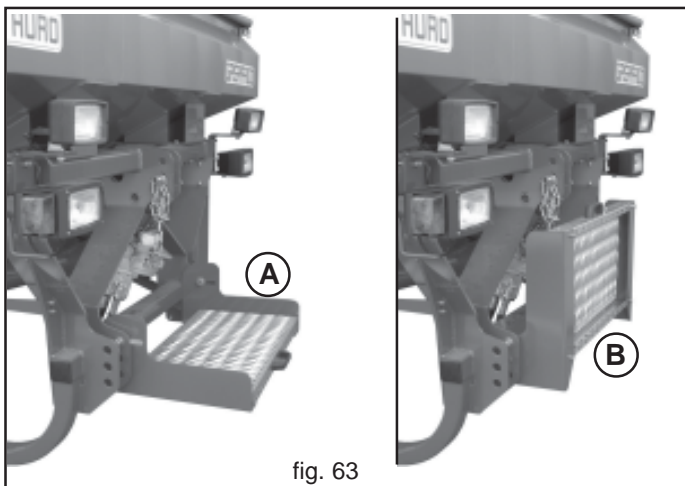

fig. 63
Hoppers and tanks can be filled by hand or using a lifter with a capacity of at least 200 kg, which must be regularly approved by the relative authorities. Please remember that lifting weights of more than 25 kg requires more than one operator or the use of hoisting apparatus. In the event of manual loading, use the platform (A, Fig. 63) to reach the hopper of the equipment. Always fold the platform as shown in Figure 63 (B) during the work and during road transport.